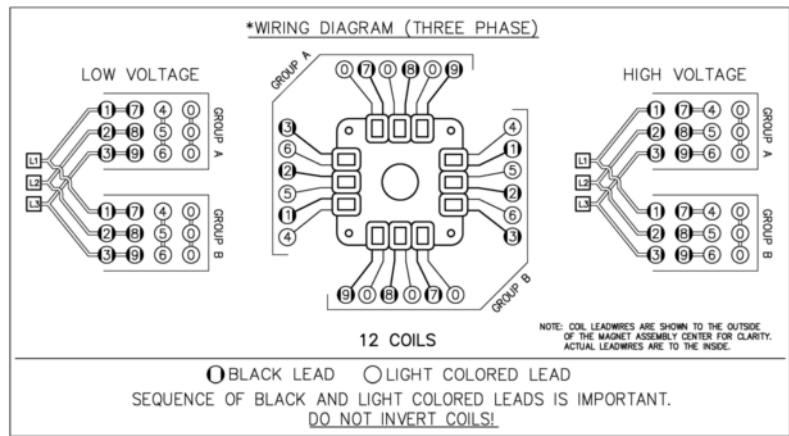

Figure 2. Wiring Diagram
5. Connect coil leads per appropriate wiring diagram in Figure 2 and replace cover.
MAGNET COIL REPLACEMENT (See Figures 2 & 3)
When installing coils, it is very important to follow EXACTLY the sequence of black and light colored leads as shown in wiring diagram (Figure 2). The brake will not operate properly unless coils are all in the correct position.